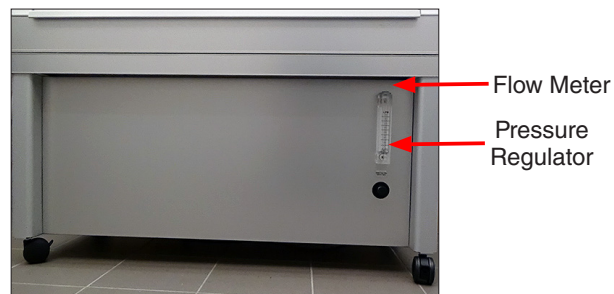

Figure 15.2a: QUV/spray pressure regulator and flow meter.
- Spray water flow in QUV testers without water repurification systems is controlled by a pressure regulator (Figure 15.2a).